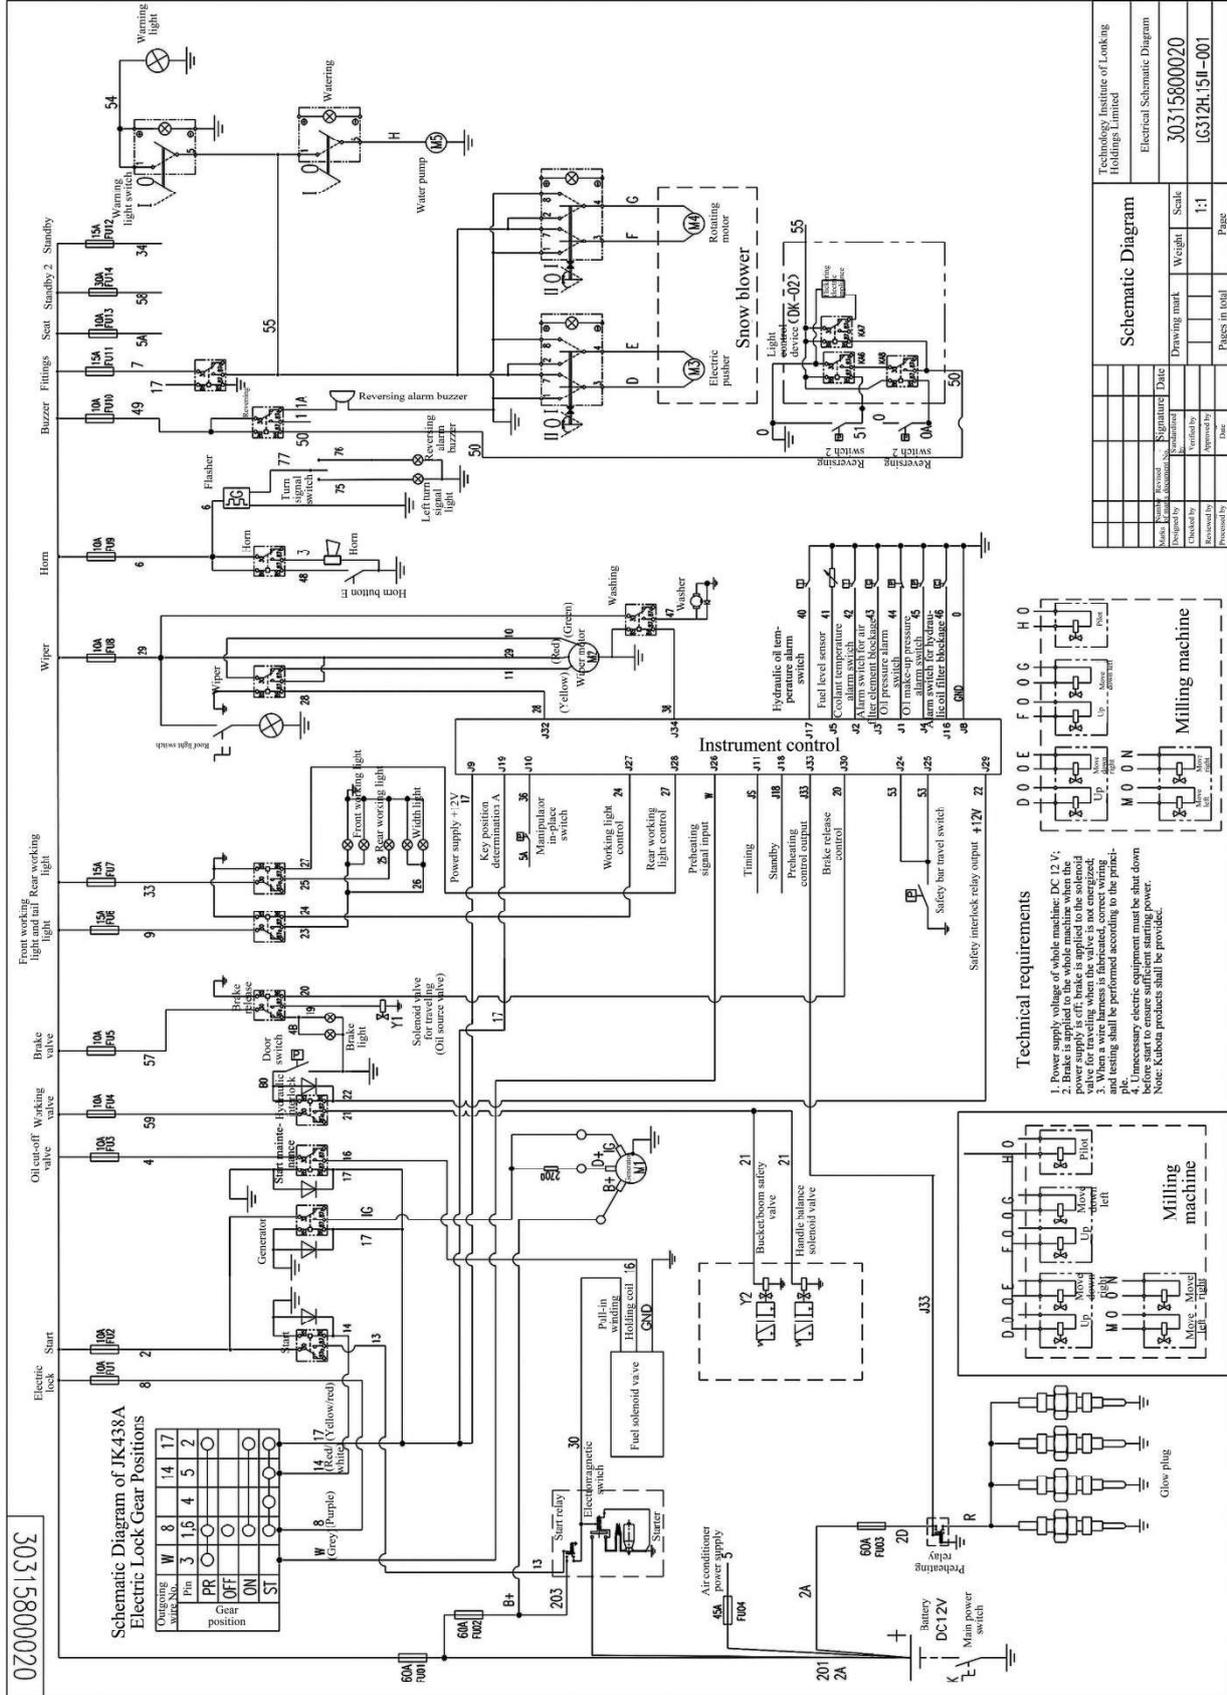

Fig. 9 Electrical Schematic Diagram
2.5.2.1 The whole machine system has the rated voltage of 12 V, with its negative electrode grounded and the single wire system adopted for its line. For wiring, see the electrical schematic diagram (Fig. 9). The maintenance-free battery (N120 120Ah) is mainly used as the power supply of starter motor. During normal operation, the generator matched with the diesel engine charges the battery. If the battery cannot be recharged or cannot be charged properly due to a certain reason, the battery shall be removed from the vehicle for charging.